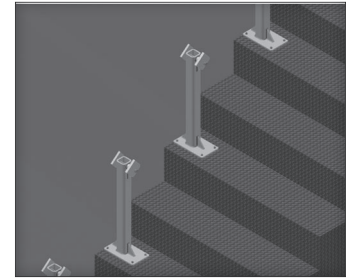

Figure 5-1
**1. Position rail mounting legs on steps.** The number of legs and spacing will be determined by the overall length and number of pieces of rail. *[Figure 5-1]*